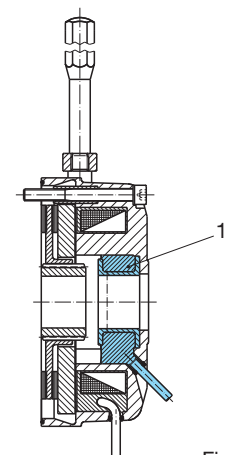

Fig. 6
- ACH = Anti-Condensation heating, Fig. 6